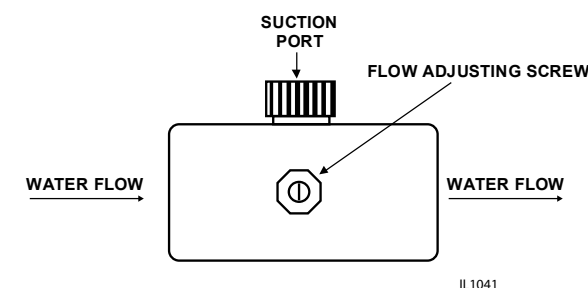

Figure 2
2. Place finger lightly over SUCTION PORT (See figure 2). A slight suction should be detected for approximately ONE-THIRD of pumping cycle. (Do not confuse with one-third of PRESSURE RANGE).